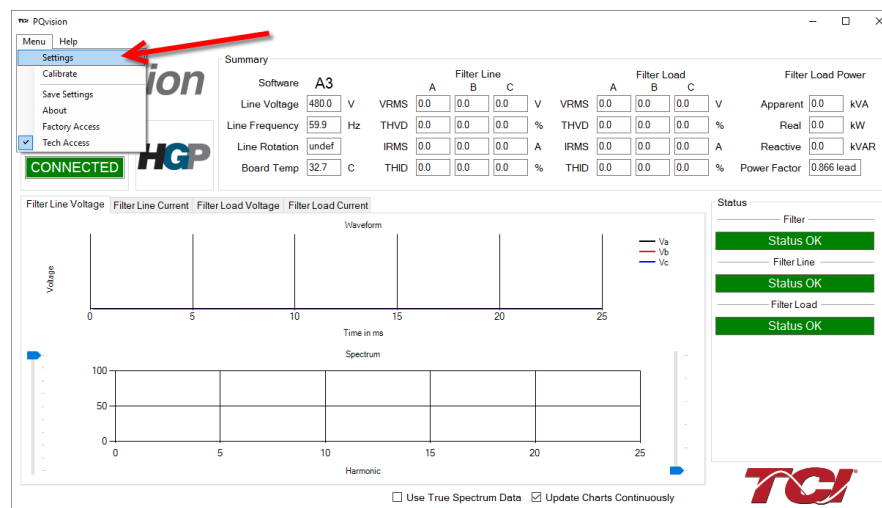

Figure 15: Settings
Step 4: Select Menu and Settings (Tech level access is required) as shown in Figure 15: Settings